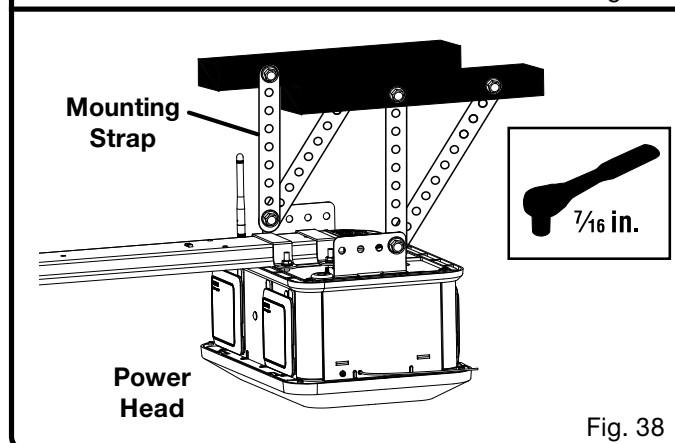

Fig. 38
- Connect straps to garage door opener and to the joists using bolts, washers, and nuts (see figure 38). Tighten bolts and nuts with a 7/16 in. socket.